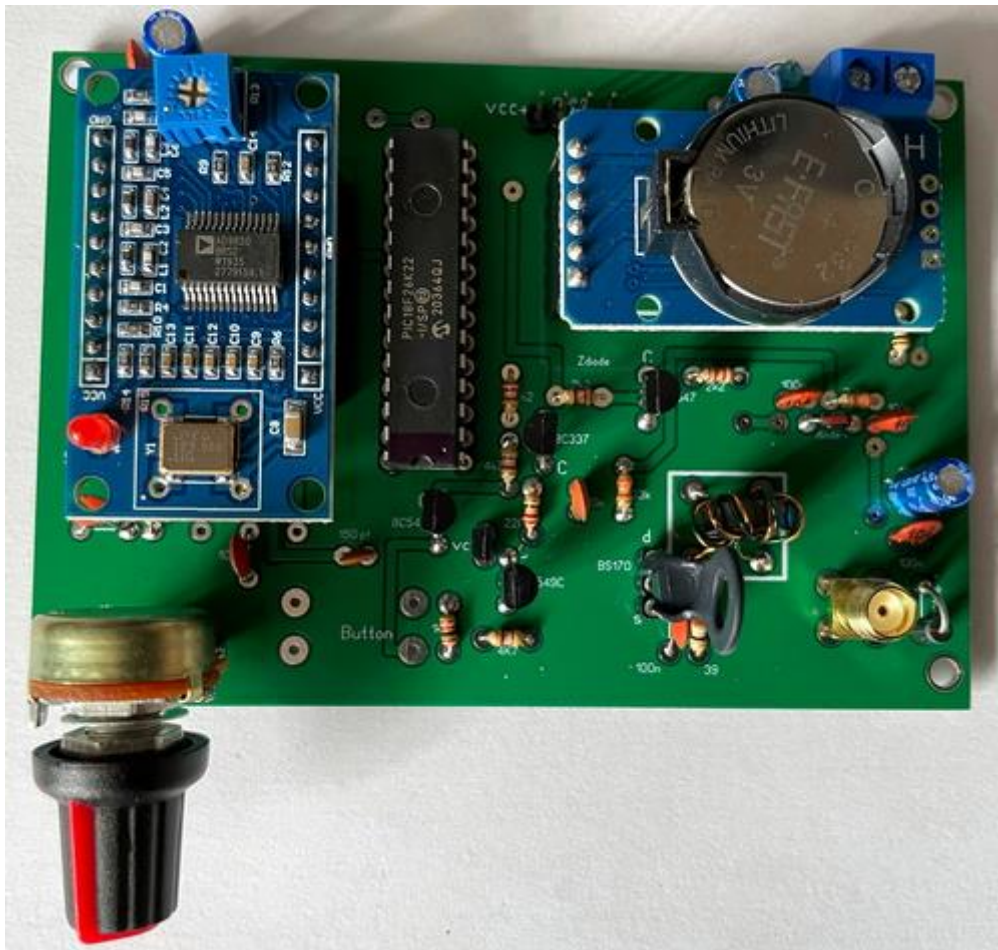

Figure 13 – Fully assembled board
- Figure 13 – Fully assembled board 12